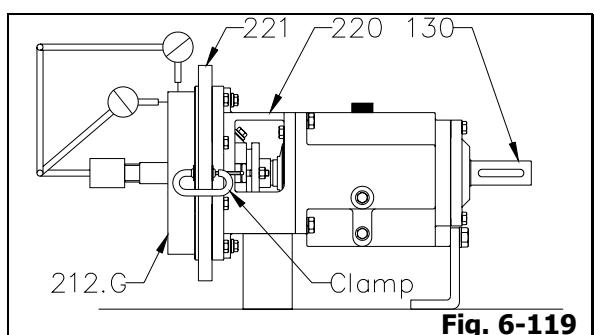

Fig. 6-119
12. Check stuffing box cover (212.G) run out. Clamp stuffing box cover (212.G) tight to frame adaptor (220) or adaptor extension ring (221). Rotate shaft (130) through 360°. If total indicator reading is greater than 0.13mm, determine cause and correct before proceeding (Fig. 6-119).